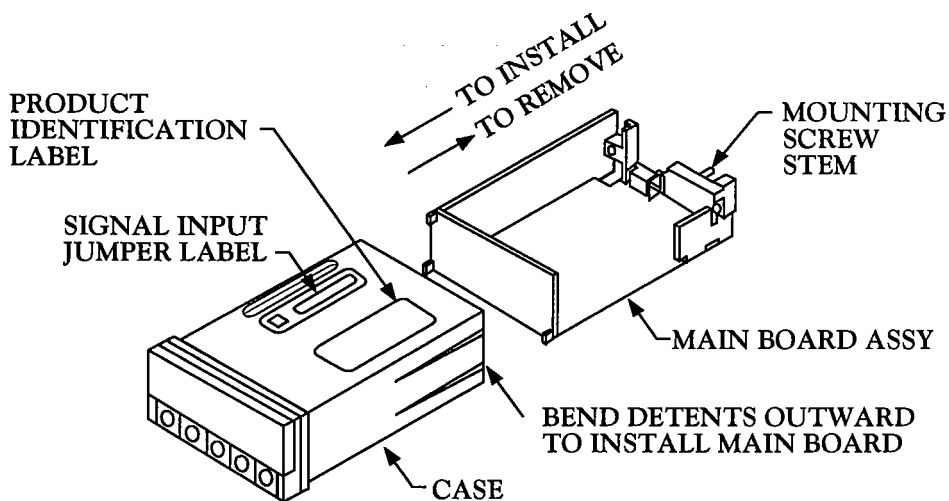

Figure 5-3. Board Assembly Removing/Installing Detail
7. Bend the side panel detents on the case (shown in Figure 5-3) outward to release the boards. Pull the board assembly out of the case by the mounting screw stem.
To look at the Rating/Product ID label on the case, you must follow the first 6 steps as described in Section 5-2. Refer to Figure 5-3 for the location of the Product Identification Label.